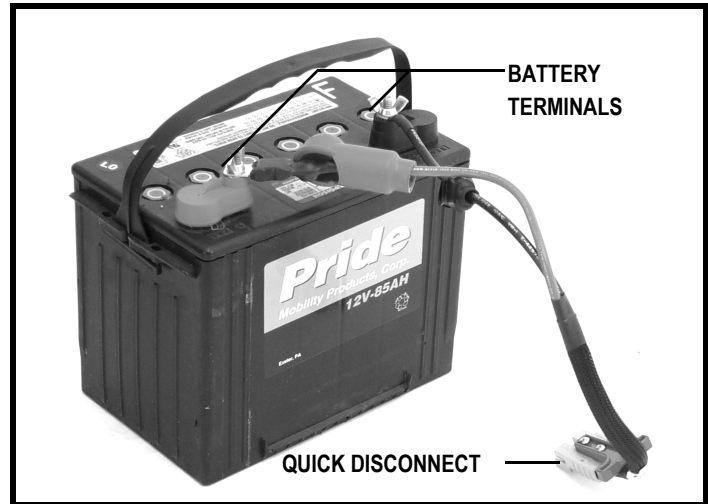

Figure 34. Battery and Harness
A diagram is printed on a decal located on the power chair frame near the battery tray. See figure 34.
5. Locate the battery quick disconnects on the frame and disconnect both of them. **See figure 34.**